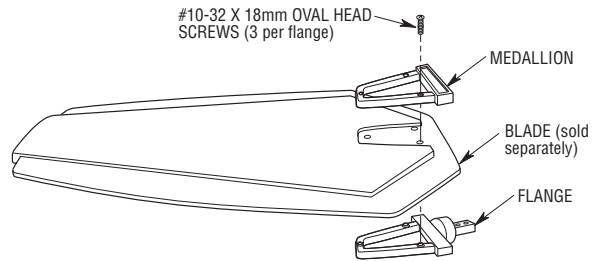

Figure 12
- 1. Assemble one flange and one medallion to each blade (sold separately) as shown (Figure 12) using #10-32 x 18mm oval head screws (provided).